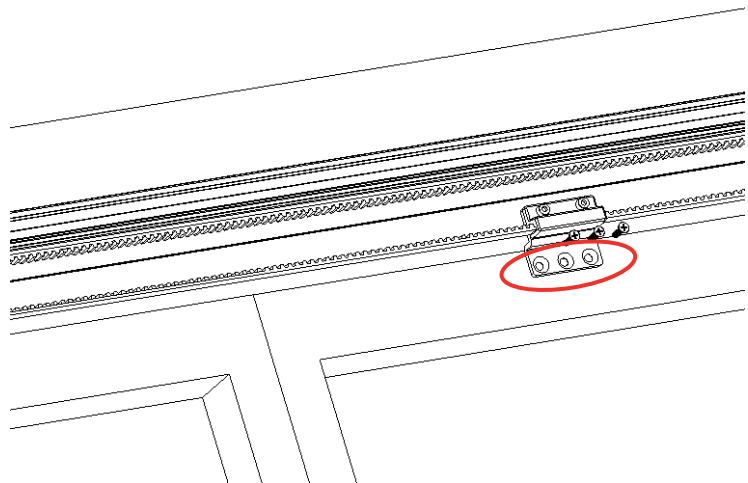

Figure 32: Drill three holes in the door for the bottom bracket. Be sure the holes are above the door's glass line to prevent damage to the glass.
3. Use the three holes in the **bottom bracket** to mark the positions of those holes on the door (Figure 32).
4. Drill 0.25" (6 mm) holes in the door at those three positions (Figure 32).